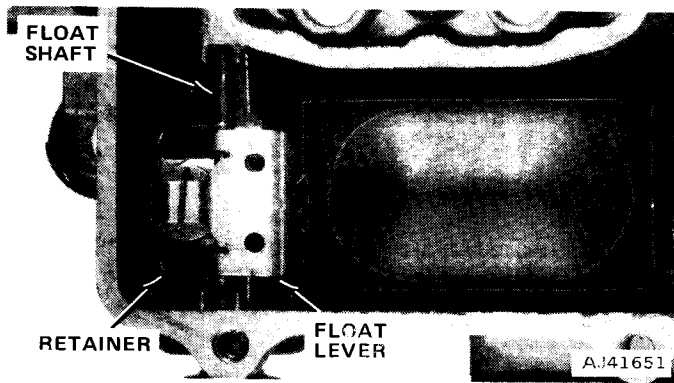

Fig. 4-45 Float Assembly
(8) Remove choke shield.
(9) Remove thermostatic choke spring housing retaining screws and clamp, housing, and gasket.
(10) Remove fast idle cam rod from fast idle cam lever.
(11) Remove choke housing assembly retaining screws, housing assembly, and gasket.
(12) Remove thermostat lever retaining screw and washer. Remove thermostatic choke shaft and fast idle cam lever from the choke housing.
(13) Pry float shaft retainer from fuel inlet seat (fig. 4-45). Remove float, float shaft retainer, and fuel inlet needle assembly. Remove retainer and float shaft from float lever.